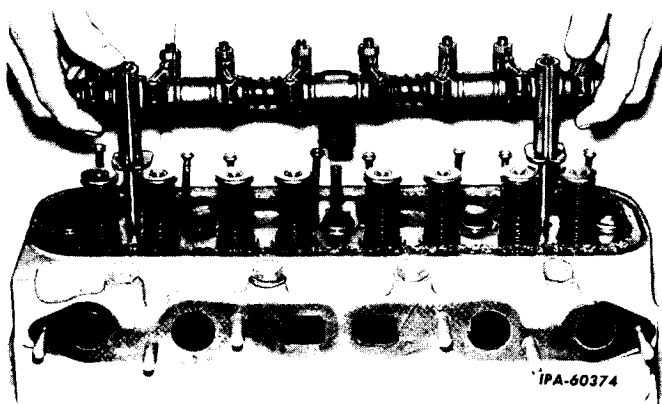

Fig. 14 - Removing the Valve Lever and Shaft Assembly.
10. Remove the stud nuts securing the valve lever brackets to the cylinder head. Lift off the complete valve lever and shaft assembly (Fig. 14). Remove the valve push rods.